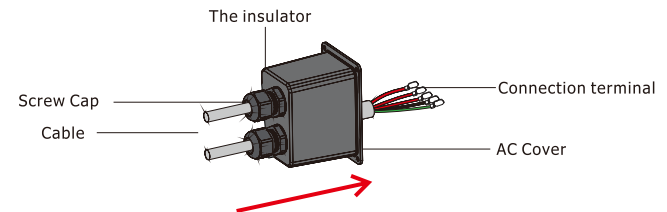

Figure 4.3-4 The AC cable passes through the terminal cover
Step 2. Using the terminals in the accessory box, pass the AC cable through the terminal cover.See Figure 4.3-4.